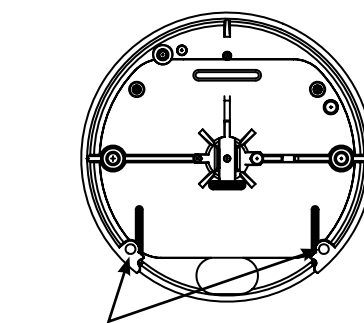

Figure 8
4. Insert the two springs (p/n 2893) and blocking pins (p/n 2894) into the holes located on the back of the keypad (Figure 8).